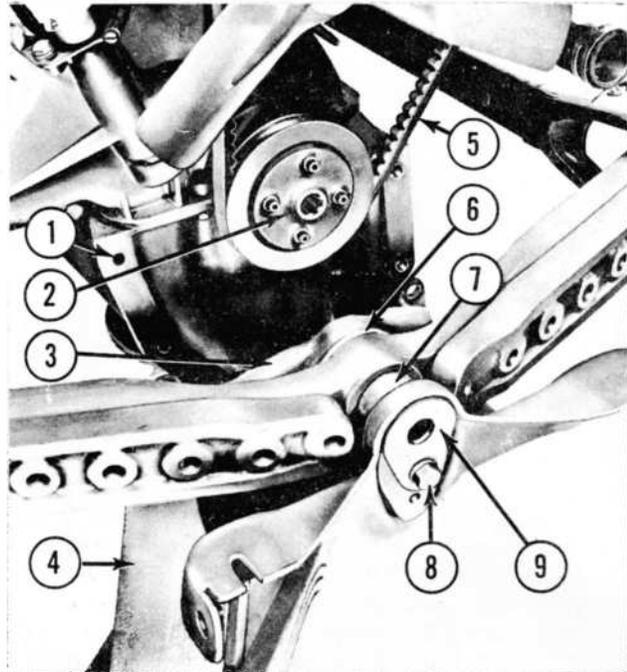
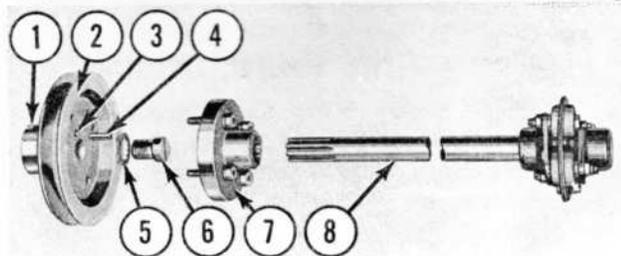

Figure 23
Figure 24
2. Place a jack (4), Figure 23, under the engine crankcase so the head of the jack is about 4" behind the front of the crankcase. Raise the jack until it touches the crankcase.
3. Remove the six bolts which hold the front end of the crankcase (1), Figure 23, to the tractor front axle support (3), and then jack up the engine. The axle assembly and wheels may raise somewhat as the engine is jacked up. As this happens, push the axle assembly down until the wheels rest on the floor.
4. Remove the fan belt (5), Figure 23.
6. Install the new adaptor sheave (2), Figure 24, on the end of the tractor crankshaft. Be sure the
keyway (1), in the sheave (2), fits over the key on the crankshaft. Then drill a $\frac{1}{4}$ " hole $\frac{7}{8}$ " deep into the pulley and tractor crankshaft through the pilot hole (3). Clean out the hole and insert the $\frac{1}{4}$ " x $\frac{3}{4}$ " straight pin (4). Fit the $\frac{5}{8}$ " internal tooth lockwasher (5) on the sheave retaining roundhead slotted screw (6) and turn the sheave retaining drive hub (7), Figure 24, on the sheave as shown at (2), Figure 23, and secure it in place with the four Allen head screws and lockwashers provided.
8. Remove the hex head bolt (8), Figure 23, and raise or lower the jack slightly until the axle pin (9), can be easily removed from the tractor. Remove the washers (6) and spacer (7) as the pin (9) is pulled out.
9. Insert the new axle pin through the axle, repositioning the washers (6), Figure 23, and the spacer (7), on the pin as it is installed.